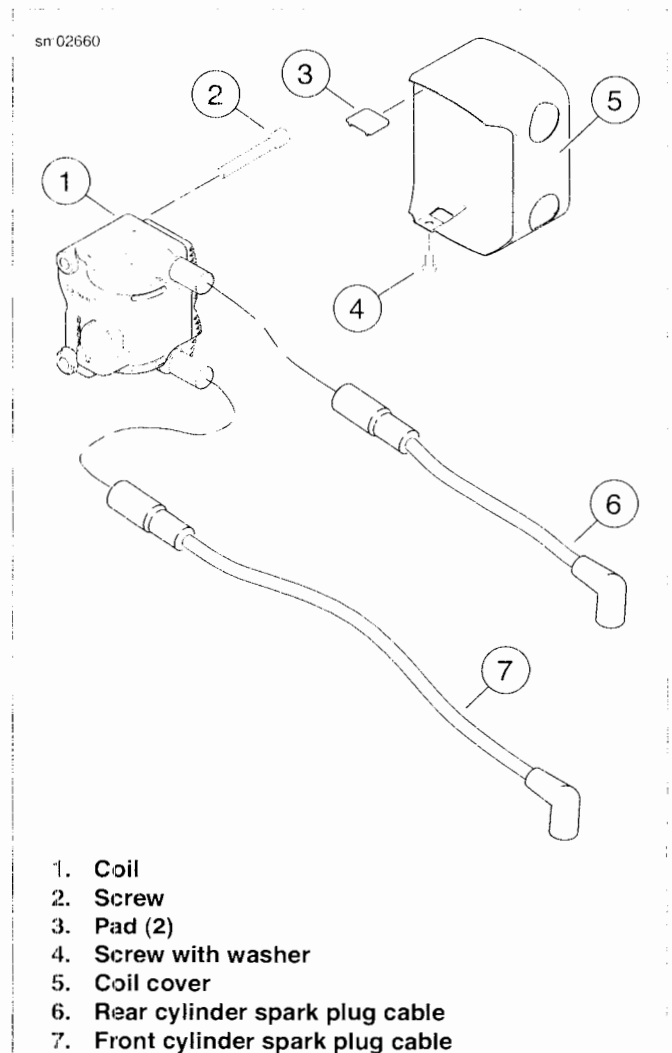

Figure 7-59. Coil (All Except FXCWC)
3. See Figure 7-59. Remove spark plug cables from coil.
4. Remove screw (4) to detach cover (5) from coil (1).
5. Remove two mounting screws (2) to detach coil from seat post.
1. See Figure 7-59. Attach connector [83] to backside of coil.
2. Position coil on seat post. Install two screws (2) and tighten to 120-180 **in-lbs** (13.6-20.3 Nm).
3. Fasten cover (5) to coil with screw (4). Tighten to 30-40 **in-lbs** (3.4-4.5 Nm).